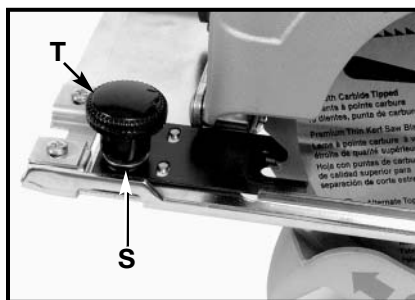

Fig. 17
2. Place the large slot in the insert around the stud and the two small slots over the raised dimples on the front of the base (Fig. 17).
3. Install the washer (S) Fig. 17 and knob (T) Fig. 17 on stud, but do not tighten.